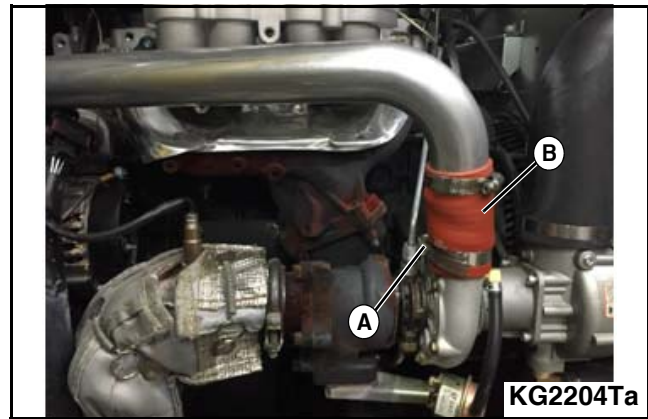

Figure 3-45
4. Loosen the hose clamp (A) on the turbocharger compressor discharge. Disconnect the hose (B) from the turbocharger compressor discharge. **See Figure 3-45.**